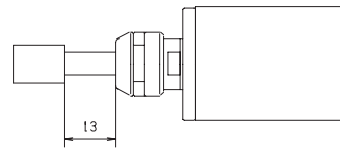

Fig.34
(2) Do not exceed 13mm overhang for mounted grindstones. In case overhang must exceed 13mm reduce the motor speed in accordance with Fig.34 and Table 5.